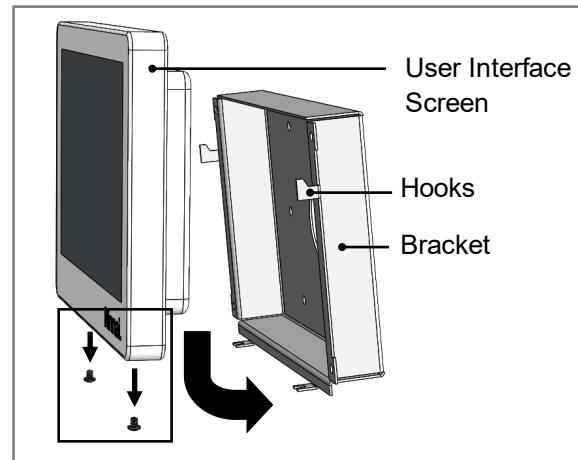

Fig 20. Remove the Bracket from the User Interface
1. Remove the bracket from the user interface screen (Fig 20).